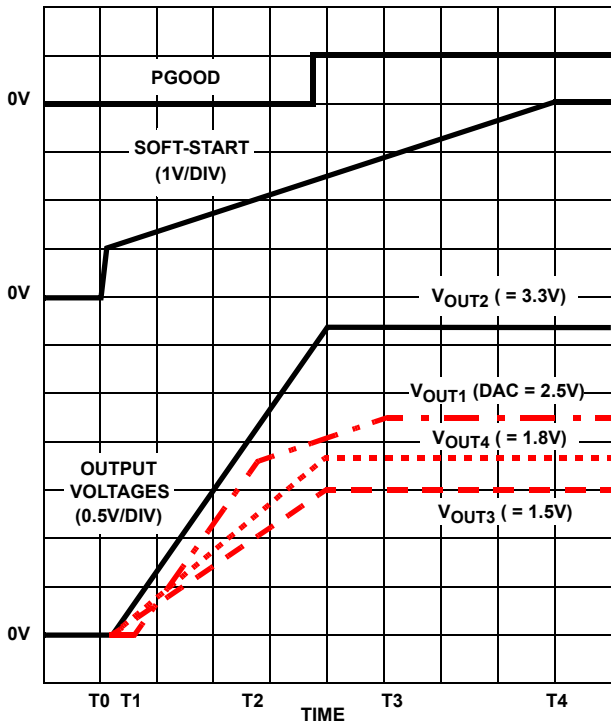
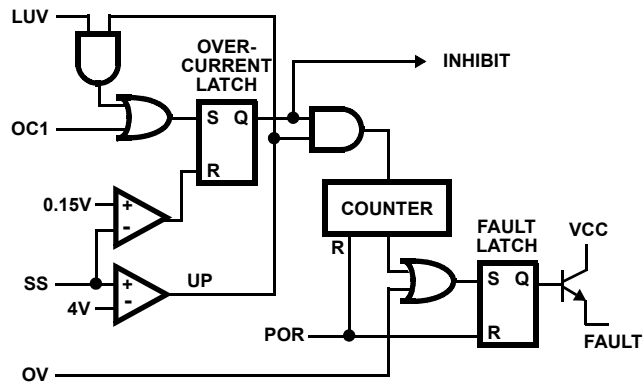

FIGURE 3. SOFT-START INTERVAL
FIGURE 4. FAULT LOGIC - SIMPLIFIED SCHEMATIC
Figure 3 shows the soft-start sequence for the typical application. At T0 the SS voltage rapidly increases to approximately 1V. At T1, the SS pin and error amplifier output voltage reach the valley of the oscillator's triangle wave. The oscillator's triangular wave form is compared to the clamped error amplifier output voltage. As the SS pin voltage increases, the pulse-width on the PHASE pin increases. The interval of increasing pulse-width continues until each output reaches sufficient voltage to transfer control to the input reference clamp. If we consider the 2.5V core output (V_{OUT1}) in Figure 3, this time occurs at T2. During the interval between T2 and T3, the error amplifier reference ramps to the final value and the converter regulates the output a voltage proportional to the SS pin voltage. At T3 the input clamp voltage exceeds the reference voltage and the output voltage is in regulation.
Figure 4 shows a simplified schematic of the fault logic. An over-voltage detected on V_{SEN1} immediately sets the fault latch. A sequence of three over-current fault signals also sets the fault latch. The over-current latch is set dependent upon the states of the over-current (OC), linear under-voltage (LUV) and the soft-start signals. A window comparator monitors the SS pin and indicates when C_{SS} is fully charged to 4V (UP signal). An under-voltage on either linear output (V_{SEN2} , V_{SEN3} , or V_{SEN4}) is ignored until after the soft-start interval ($T4$ in Figure 3). This allows V_{OUT2} , V_{OUT3} , and V_{OUT4} to
Initially, the soft-start function clamps the error amplifier's output of the PWM converter. This generates PHASE pulses of increasing width that charge the output capacitor(s). After the output voltage increases to approximately 70% of the set value, the reference input of the error amplifier is clamped to a voltage proportional to the SS pin voltage. The resulting output voltages start-up as shown in Figure 3.